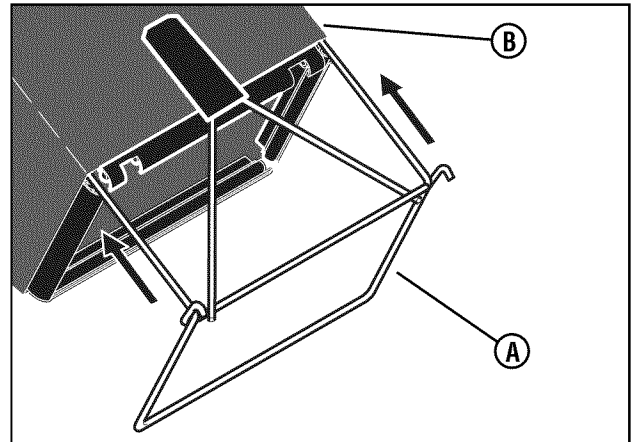

Figure 5: Installing the frame assembly
1. Slide the frame assembly (**A, Figure 5**) into the grass bag (**B**).